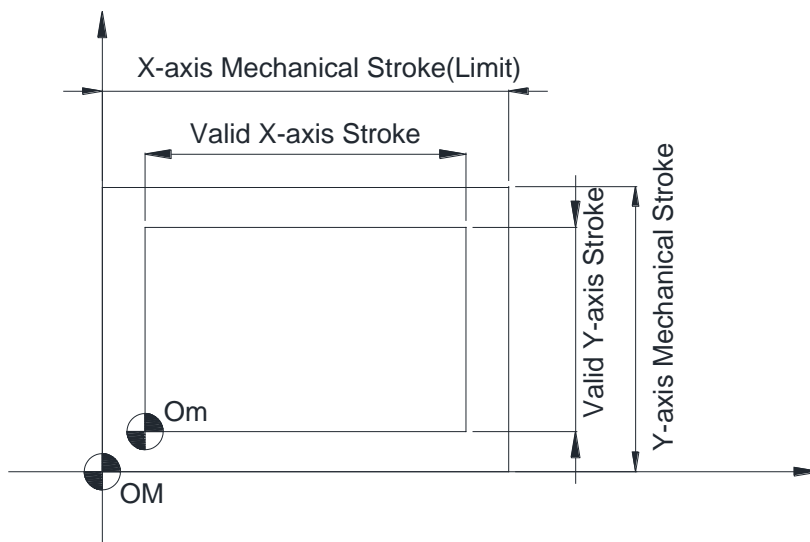

Fig. 1-3 Machine Origin OM and Machine Reference Point Om
The relationship between machine origin (OM), machine reference point (Om), the mechanical stroke and valid stroke of MCS is as shown in Fig. 1-3.